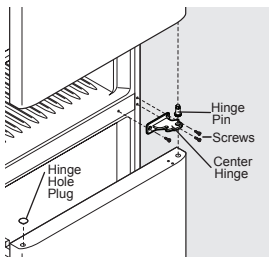

Figure 2
7. Using a T25 Torx Head screwdriver, remove the 3 center hinge screws, and set center hinge aside (see Figure 2).